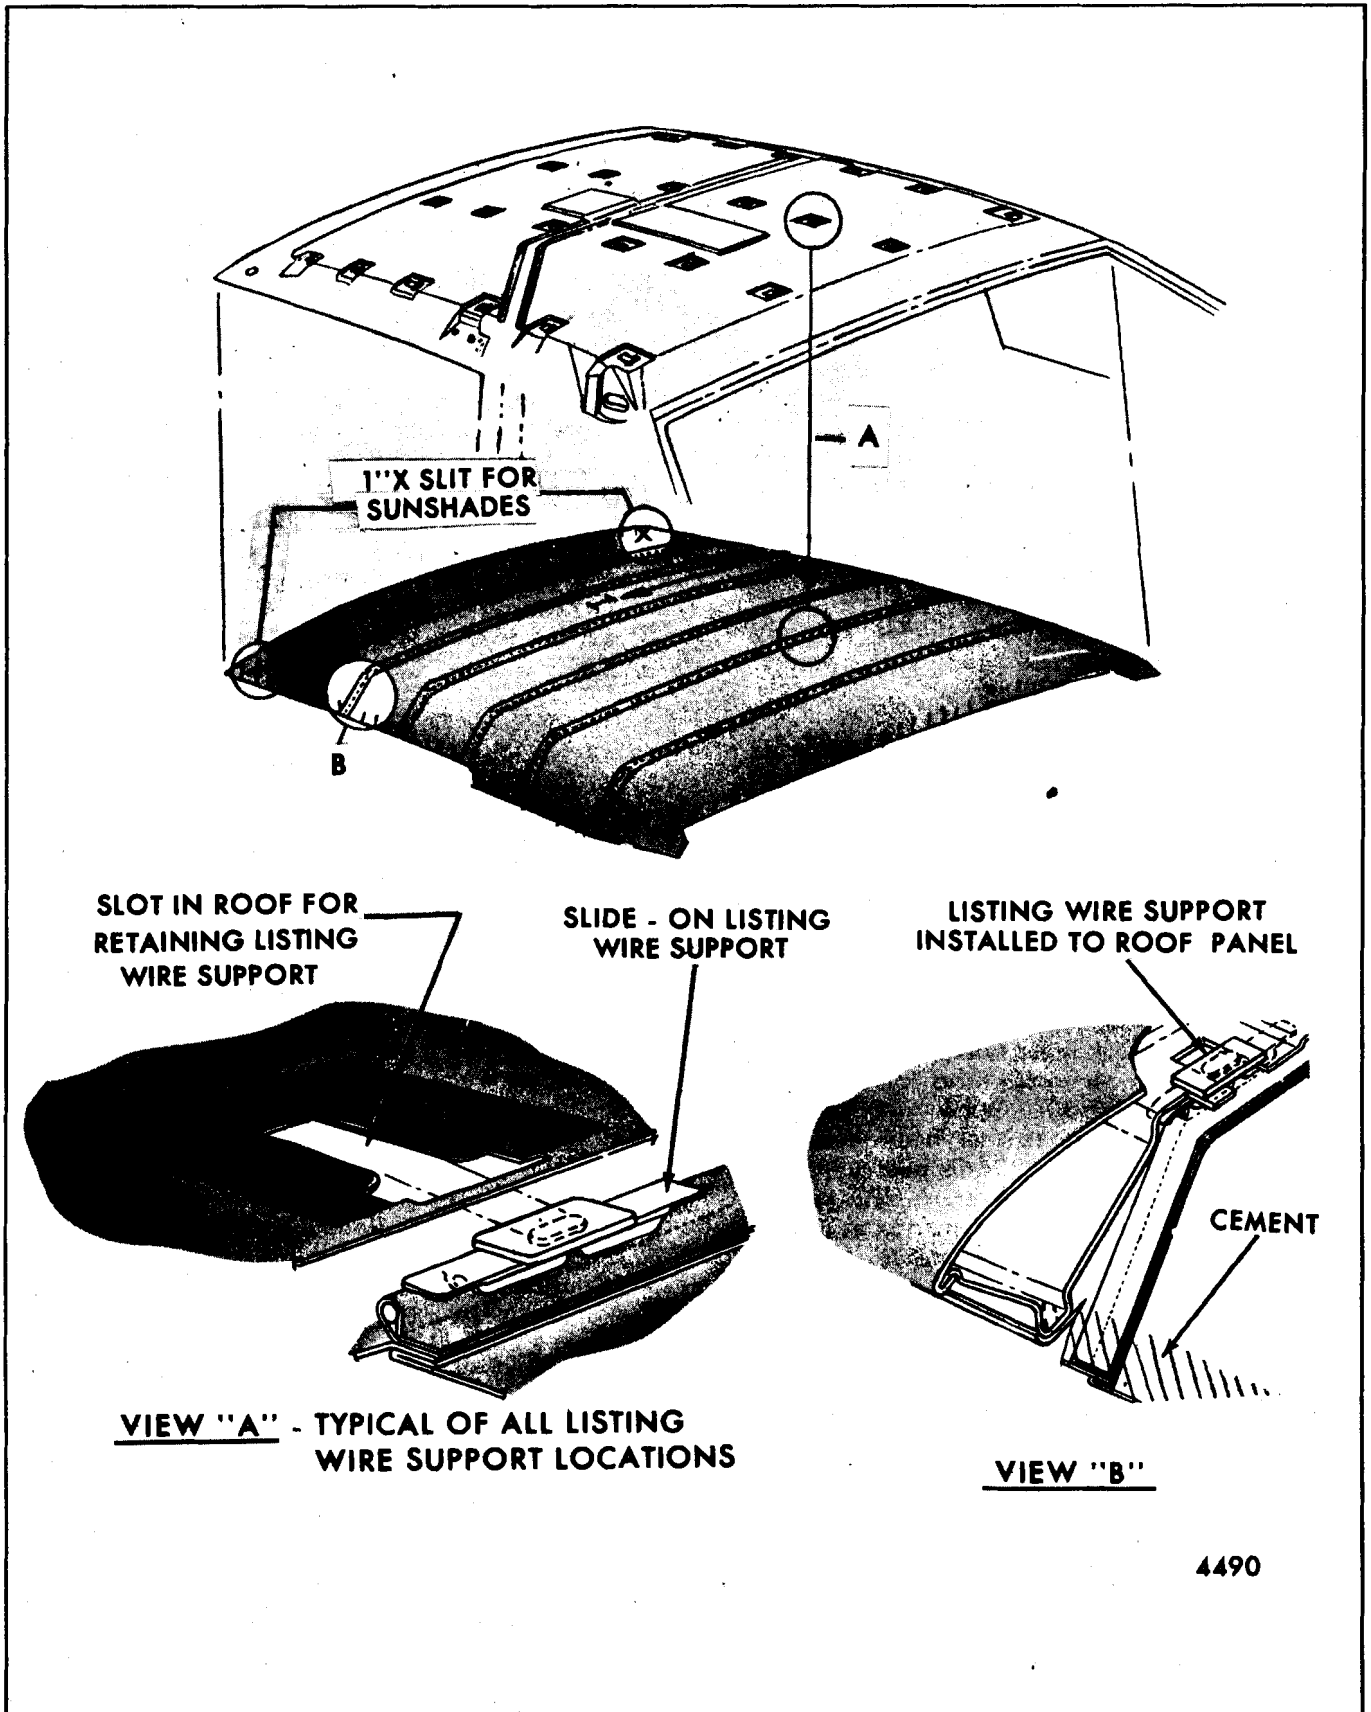

Fig. 10-2-Typical Cloth or Vinyl Headlining Installation - "B, C, F and E" Body Styles
On "B, C, E and F" Styles - starting at front of body, carefully detach headlining and plastic supports from retaining slots in roof panel. (See Fig. 10-2, View "A"). Exercise care to keep headlining material clean by gathering or folding headlining with listing wires on outside.
- A. Lift headlining assembly into body; then, starting at rear listing wire and working forward install plastic supports with headlining attached into retaining slots in roof panel (Fig. 10-2, View "A" and "B").